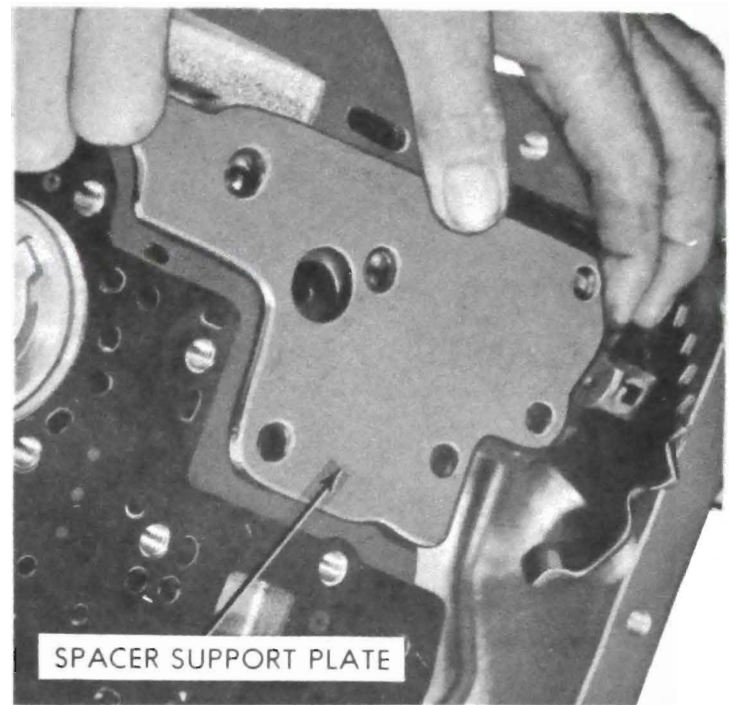

Figure 75-64
4. Remove spacer support plate bolts. Remove spacer support plate. See Figure 75-64.